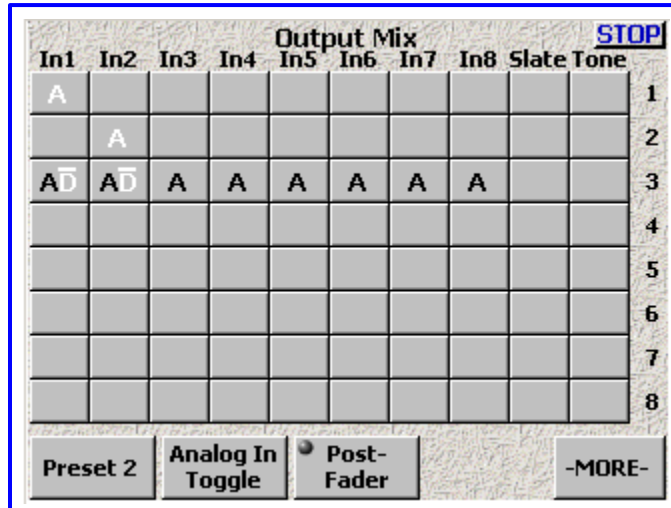

Figure 3-7 Output Mix page
- In **Figure 3-7** {above}, pre-fader analog input #1 is routed to output #1 (i.e. Boom-1), pre-fader analog input #2 is routed to output #2 pre-fader (i.e. Boom-2) and the ten track mix, consisting of post-fader analog inputs 1 – 8 and pre-fader digital inputs 1 and 2, are routed to Output #3 (i.e. the Director's feed).